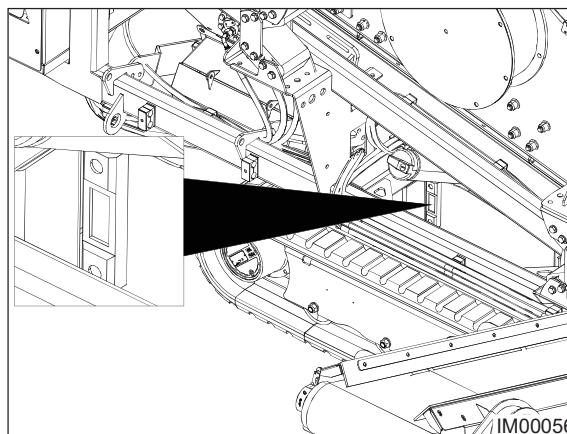

Fig: 11.26 - Sight Glass
3. View the sight glass on the side of the fuel tank (Fig: 11.26).